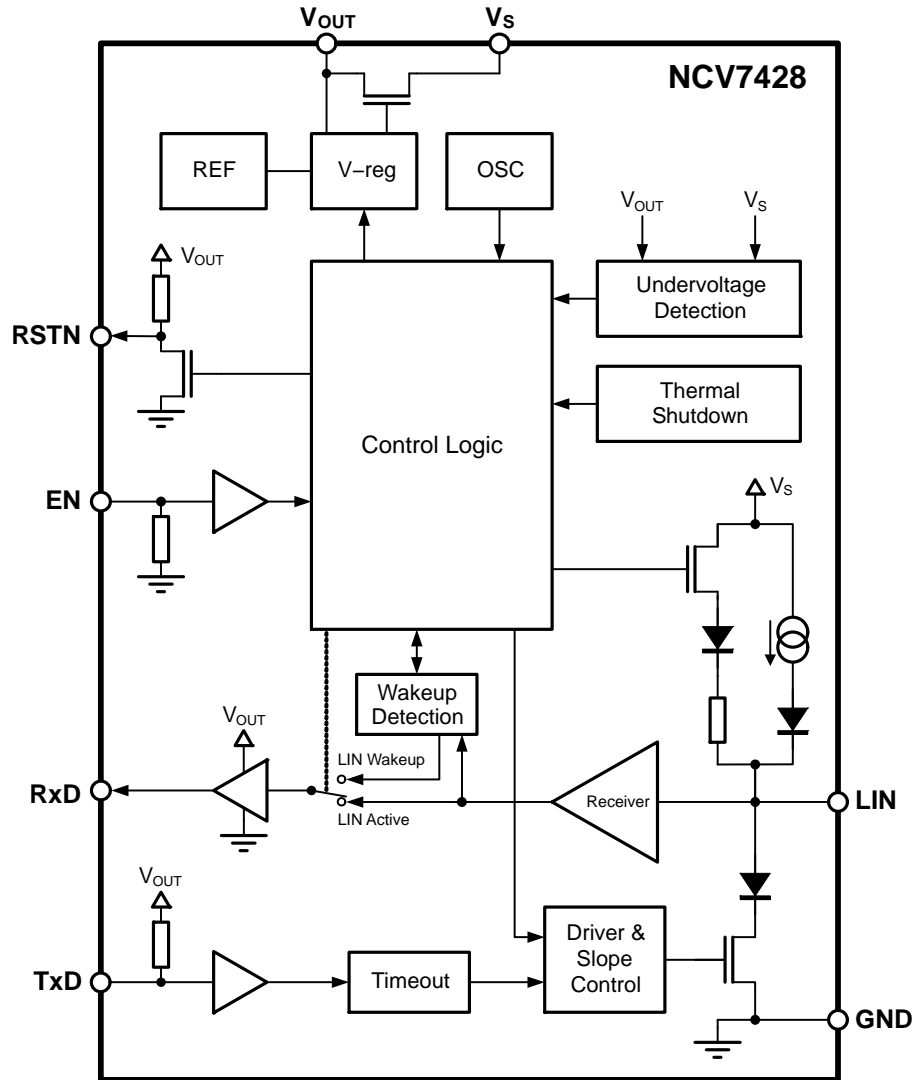

Figure 1. Block Diagram
- The voltage drop in Normal mode between LIN and V_S pin is the sum of the diode drop and the drop at serial pull-up resistor. The drop at the switch is negligible. See Figure 1.